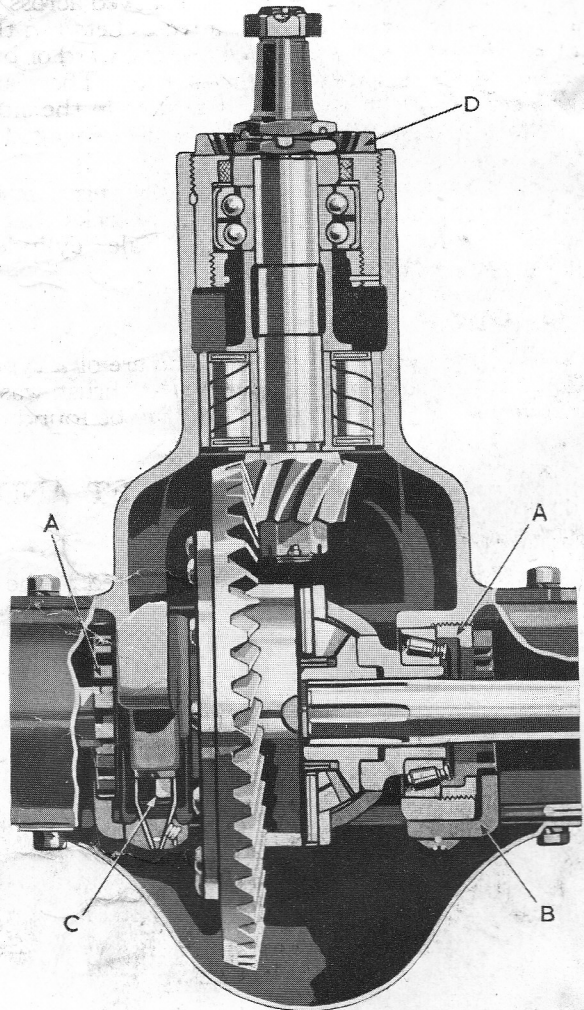

Fig. No. 34 SECTIONAL VIEW OF DIFFERENTIAL CARRIER ASSEMBLY
In order that the spiral bevel ring gear and drive pinion may operate correctly they must be in perfect alignment; at the same time there must be a correct amount of back lash between the pinion and gear. To that end two means of adjustment are provided. The differential on which the ring gear is mounted may be moved toward either side as required by turning one of the adjusting nuts (A) Figure No. 34 to the left and turning the other to the right an equal amount, after the locking fingers (B) have been removed and the screws (C) in the bearing caps have been loosened. The pinion may also be moved forward or backward by turning the adjusting sleeve (D) in which the pinion shaft is mounted. The movement of the pinion shaft adjusting sleeve or the differential adjusting rings one notch is equivalent to approximately four thousandths (.004) inch at the point of contact between the pinion and ring gear. The amount of back lash necessary to insure quietness of action is ordinarily between ten thousandths (.010) and twenty thousandths (.020) of an inch, depending upon the cut of the gears and the variation which takes place in their manufacture. The proper amount of back lash or clearance should be arrived at however, only after it is known that the ends of the teeth on the pinion are flush with either the inner or outer ends of the teeth on the ring gear.